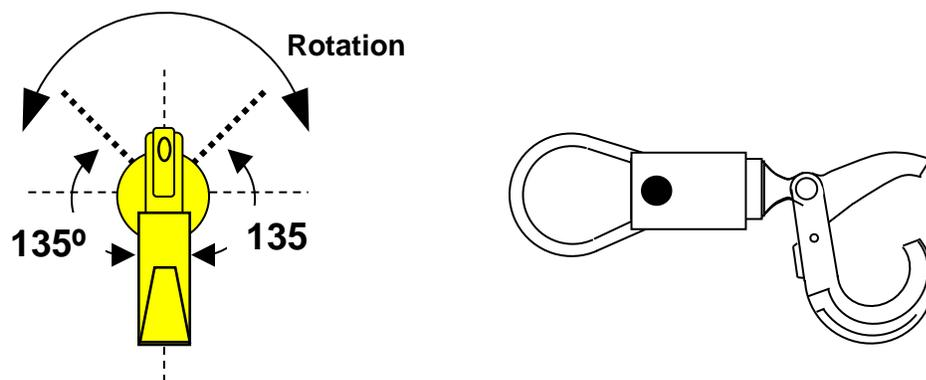

Figure 8. Free Rotation, Unloaded.
- a. Free rotation. Open the hook. Rotate the swivel until the ‘jaw’ of the hook is down. Rotate the swivel slowly in one direction and then the other. The speed of rotation shall not be greater than 1 revolution in 5 seconds. The jaw should be held (due to gravity) to an orientation less than 135 degrees from vertical, see Figure 8. If the binding of the swivel results in the jaw of the hook rotating over the top the repair is unacceptable.